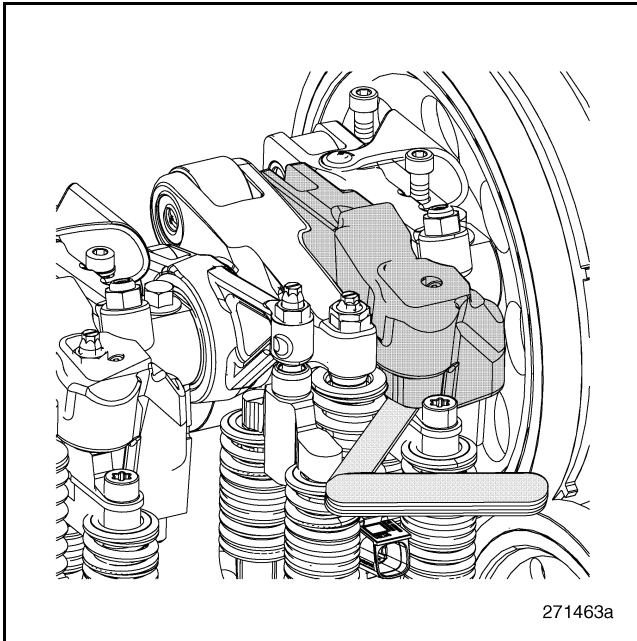

Figure 538 — Measuring Exhaust Valve Clearance
3. Measure the clearance between the exhaust rocker arm piston and the shim on top of the valve yoke (bridge) as shown in Figure 538.